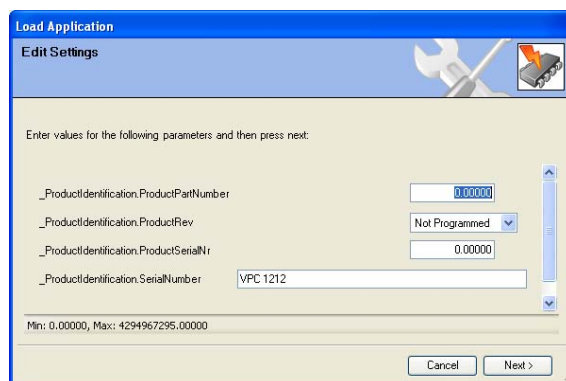

Figure 5-8. Serial Number Screen
14. This works the same for the ProductSerialNumber if the serial number is 987654321, you will see the following number: 987654321.00000 (Figure 5-8).